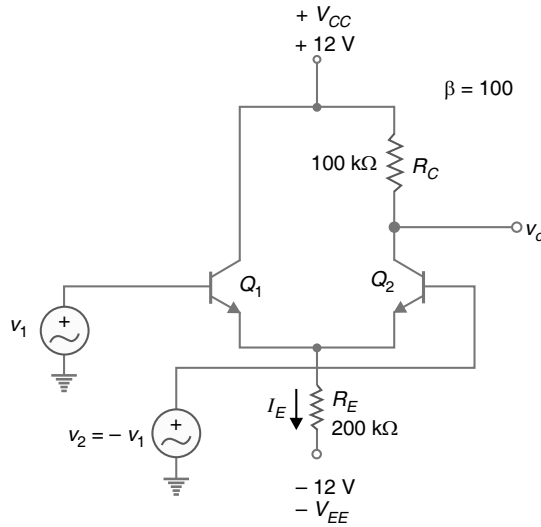

Fig. 23.33
**Example 23.16.** For the circuit shown in Fig. 23.33, find the differential-mode voltage gain.